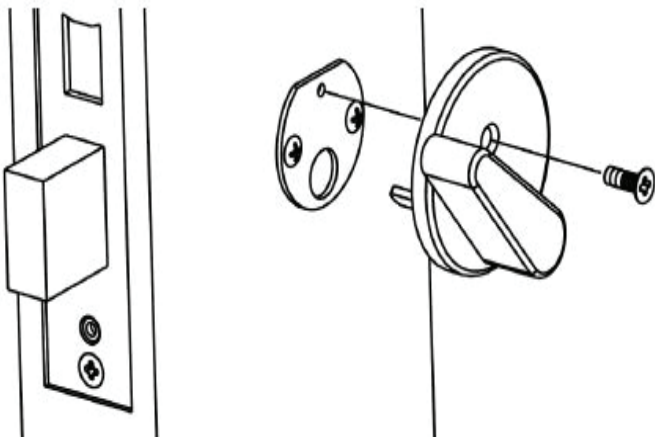

Figure 7
8. Install turn-piece using one #6 machine screw. (See Figure 7)